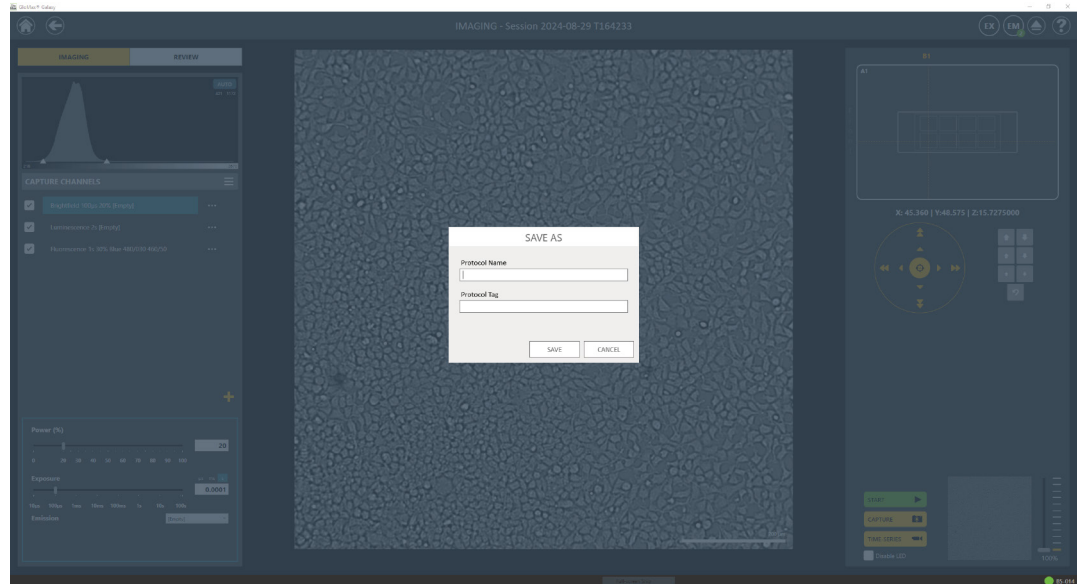

Figure 24. Save Protocol name prompt from the GloMax® Galaxy software.
2. You will be prompted to name the protocol. You also can provide a protocol tag. This text entry may be used to filter the saved protocols list later (Figure 24).